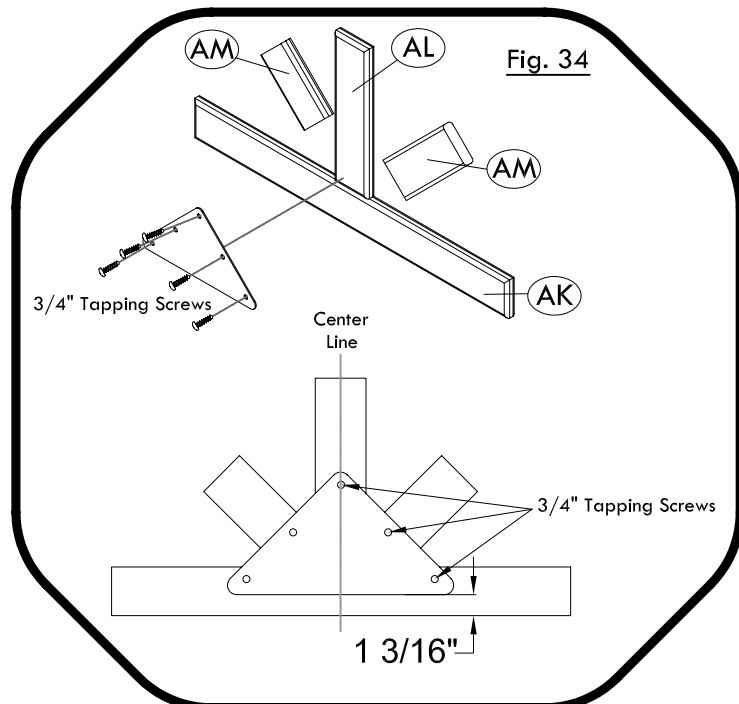

Fig. 34
Set Items 'AK', 'AL' and 'AM' on flat surface as shown below. Place Metal Sunburst Plate on top and fasten with (5) $\frac{3}{4}$ " tapping screws through predrilled holes on the Plate. Attach Sunburst Assembly to the inside of Roof Truss 'G' with $1\frac{3}{4}$ " deck screws as shown below. Repeat this Step for other side of Roof. (see Fig. 34 & 35)